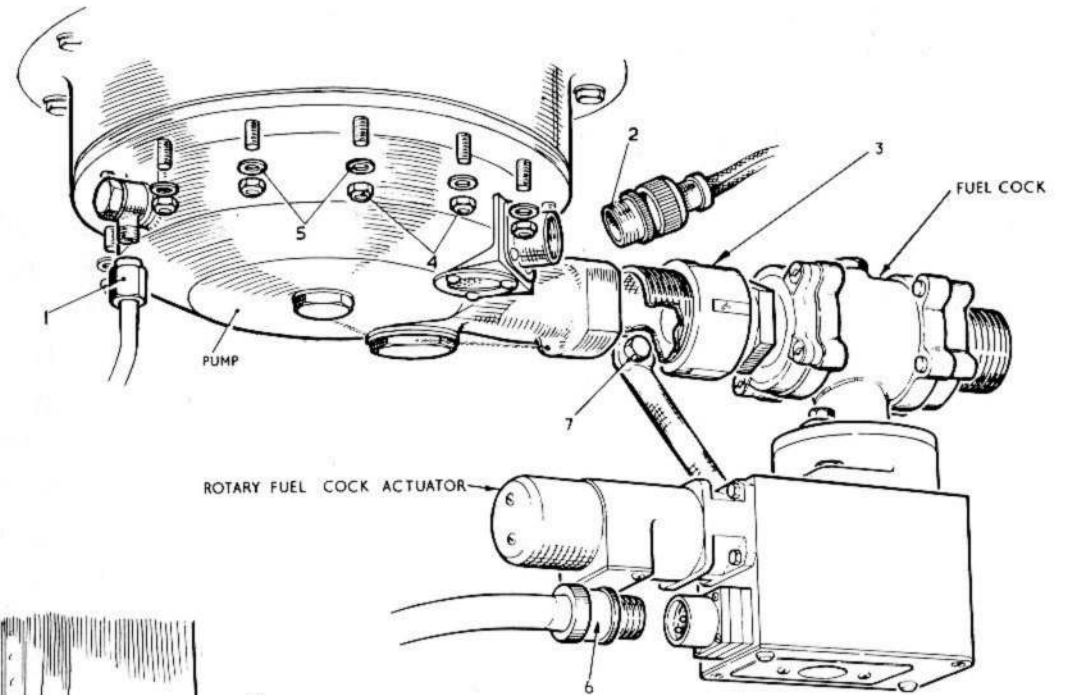

Fig 8 Fuel pump removal - No. 5 tank
54. To remove a fuel pump from No. 5 tank, refer to fig. 8 and proceed as follows:-